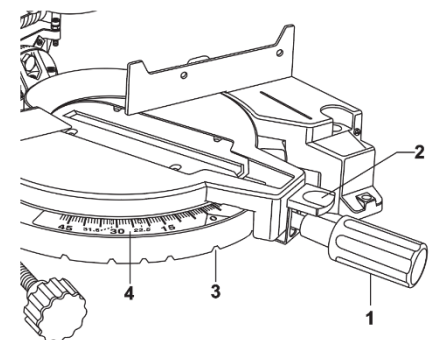

Fig. 23
- 1 . Loosen mitre lock knob 1 . Press the mitre detent trigger 2 and move the saw to the desired angle , using either the detents 3 or the mitre scale 4 . Tighten mitre lock knob (Figure 23)